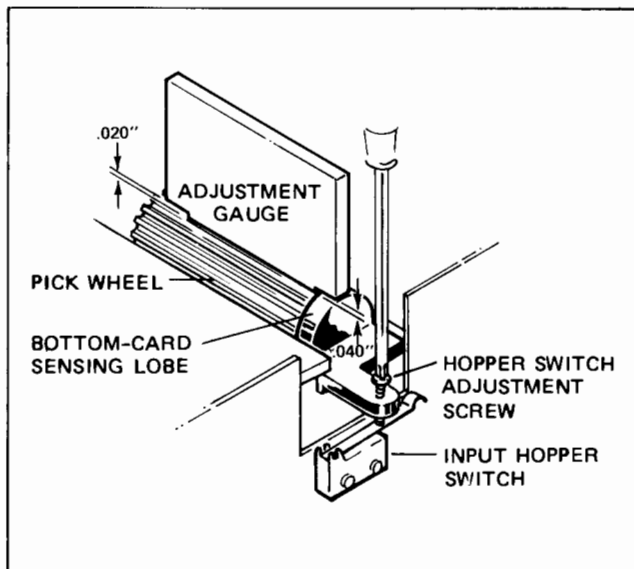

Figure 5-13. Input Hopper Switch Adjustment
5-55. The hopper switch should be adjusted so that it is actuated when the lobe is .020 to .040 inches above the pick wheel and the lobe over travel is at least .005 inches. If adjustment is necessary, raise or lower adjustment screw (D). See Figure 5-13.